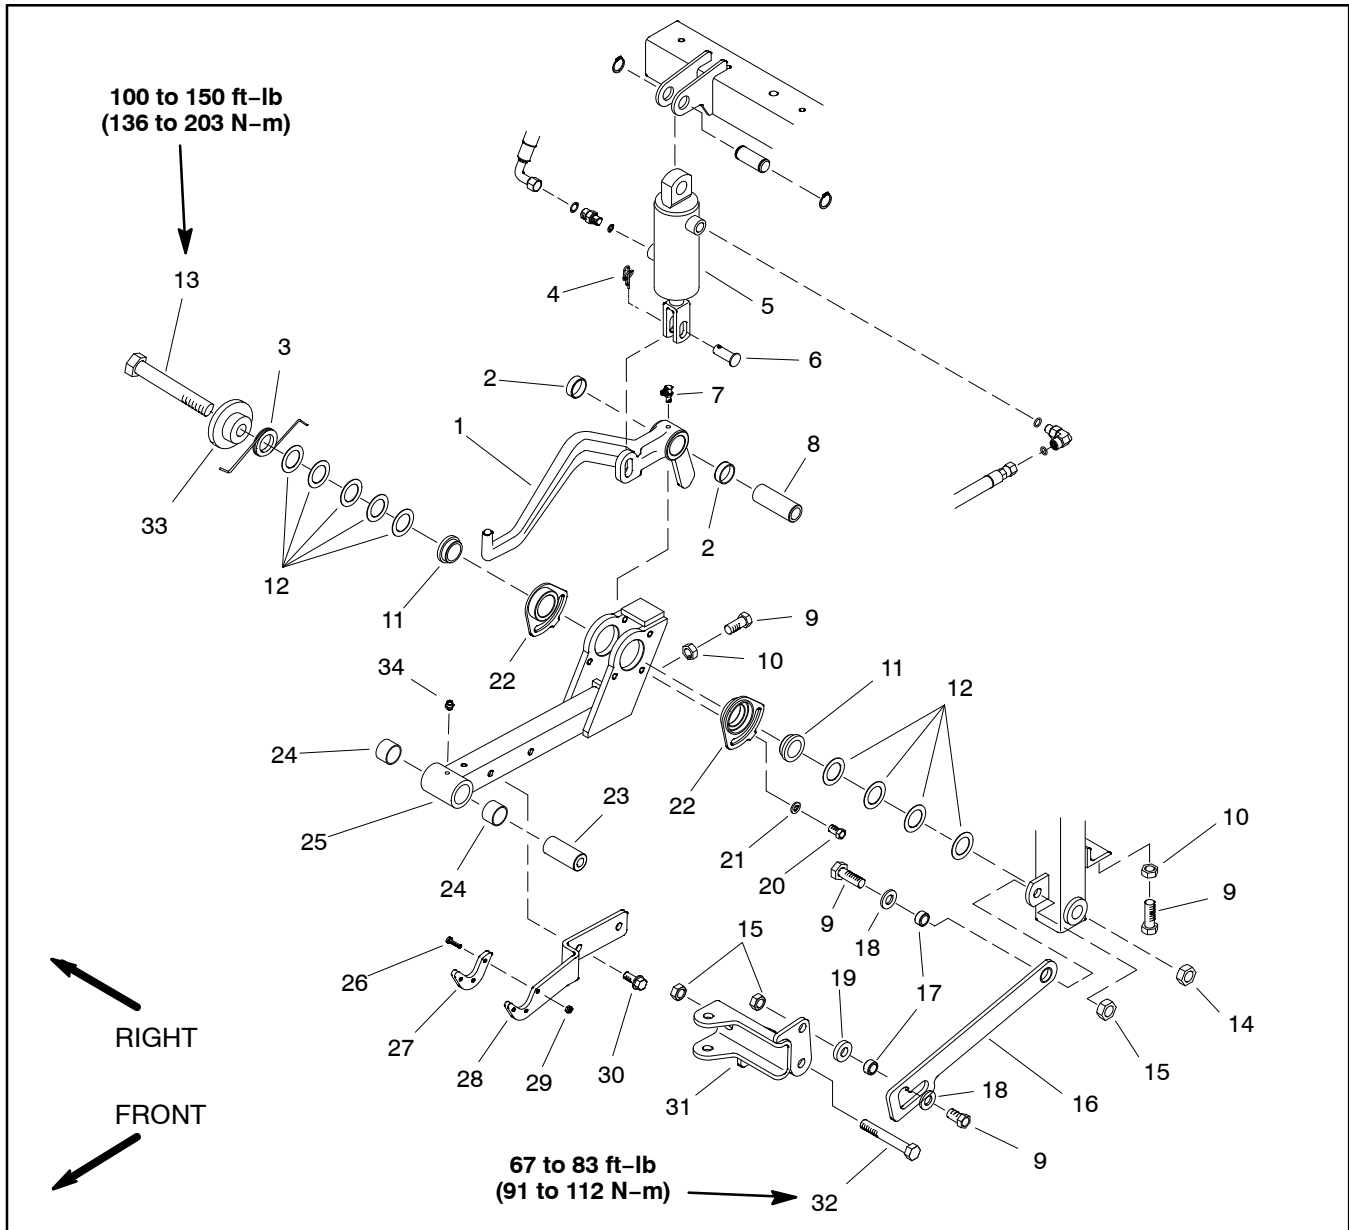

Figure 13
3. Disassemble center lift arm as needed using Figures 13 and 14 as guides.
1. If lift frame (item 25 in Fig. 13) was removed from machine:
A. Adjust eccentric bushings (item 22 in Fig. 13) as needed so that lift frame is level when the lift frame is in the raised position.
B. Install thrust washers (item 12 in Fig. 13) as needed so that lift frame is centered between the front wheel mounts when the lift frame is in the raised position.
2. Assemble center lift arm using Figures 13 and 14 as guides.
A. If clevis (item 31 in Fig. 13) was removed from center lift frame, torque cap screw from **67 to 83 ft-lb (91 to 112 N-m)**.
4. Check that when raised to the transport position, the cutting unit is secured by the transport plate. If necessary, loosen two (2) cap screws (item 30 in Fig. 13) and reposition transport plate.